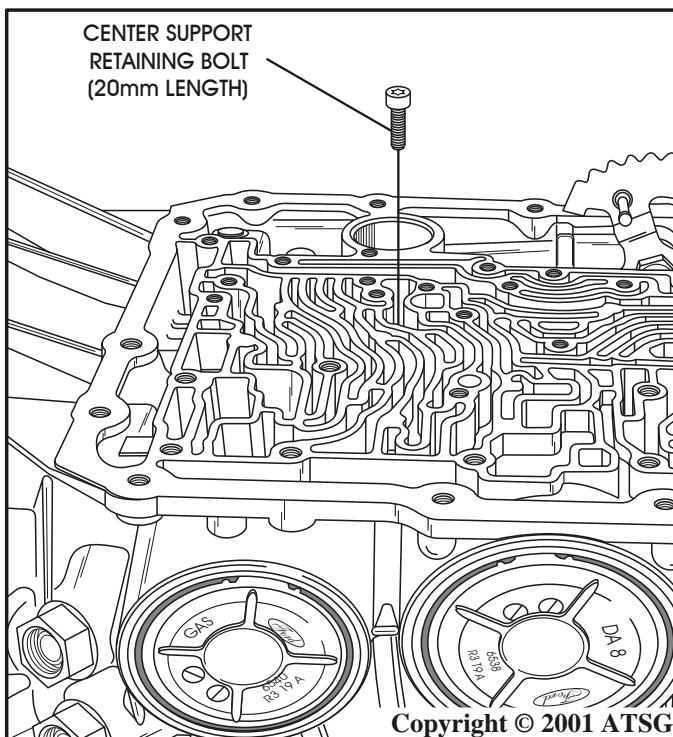
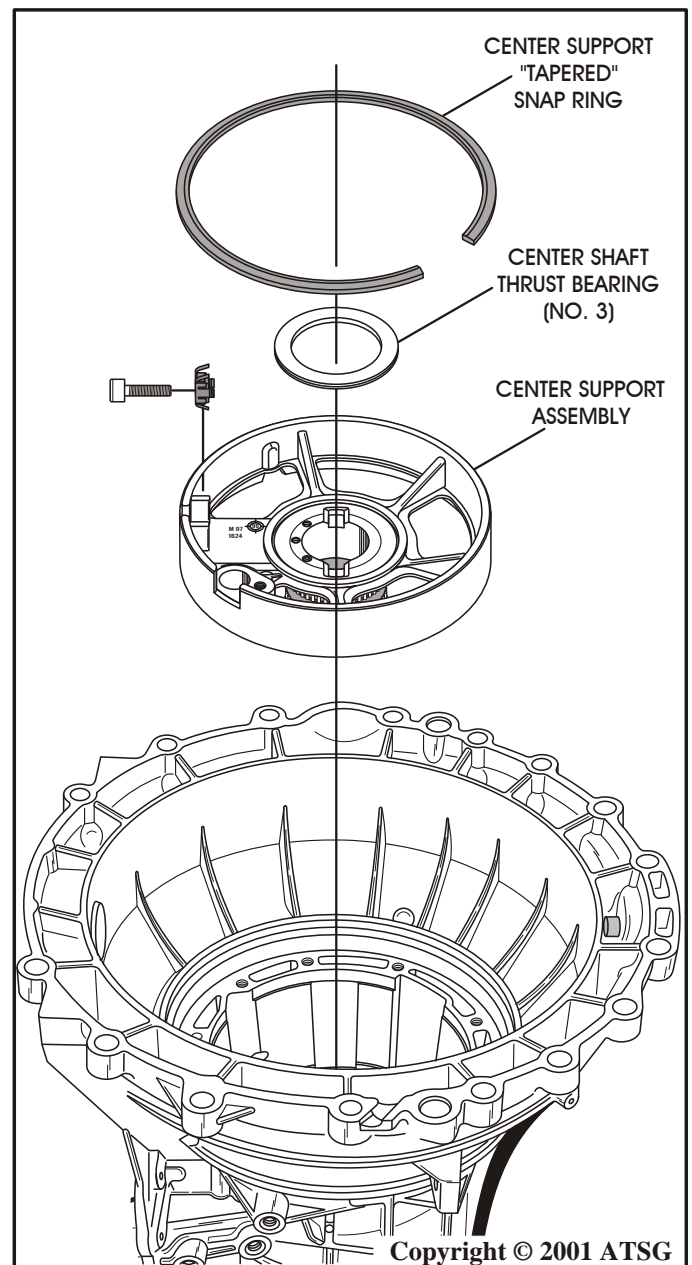

Figure 43
Figure 44
42. Now, remove the center support retaining bolt from the case, as shown in Figure 43, and also remove the locknut, as shown in Figure 44, to prevent it from falling into the assembly.
43. Remove the center support retaining snap ring from the case, as shown in Figure 44.
44. Remove center shaft thrust bearing (No. 3) from the center support, as shown in Figure 44 and tag it for I.D. and location.
45. Remove the center support and set aside for component rebuild, as shown in Figure 44.